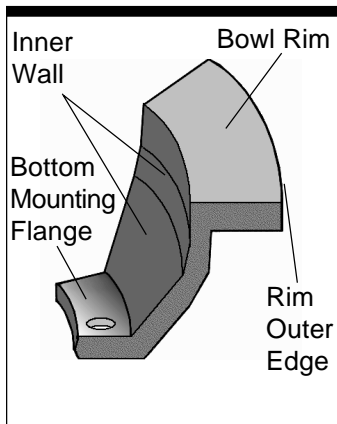

Figure 5-2.
▶ If machining enlarges the inner wall of the bowl, you may need to replace the flexible disc with a larger one (custom-sized) from your direct supplier (see Figure 5-2). If you do not obtain a larger flexible disc, the gap between the flexible disc and the inner wall of the bowl may pinch or snag product.